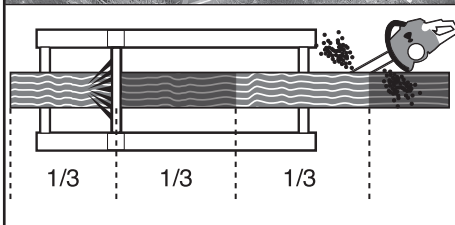

FIG.5
7.4 CUTTING THE TIMBER – FIG.5